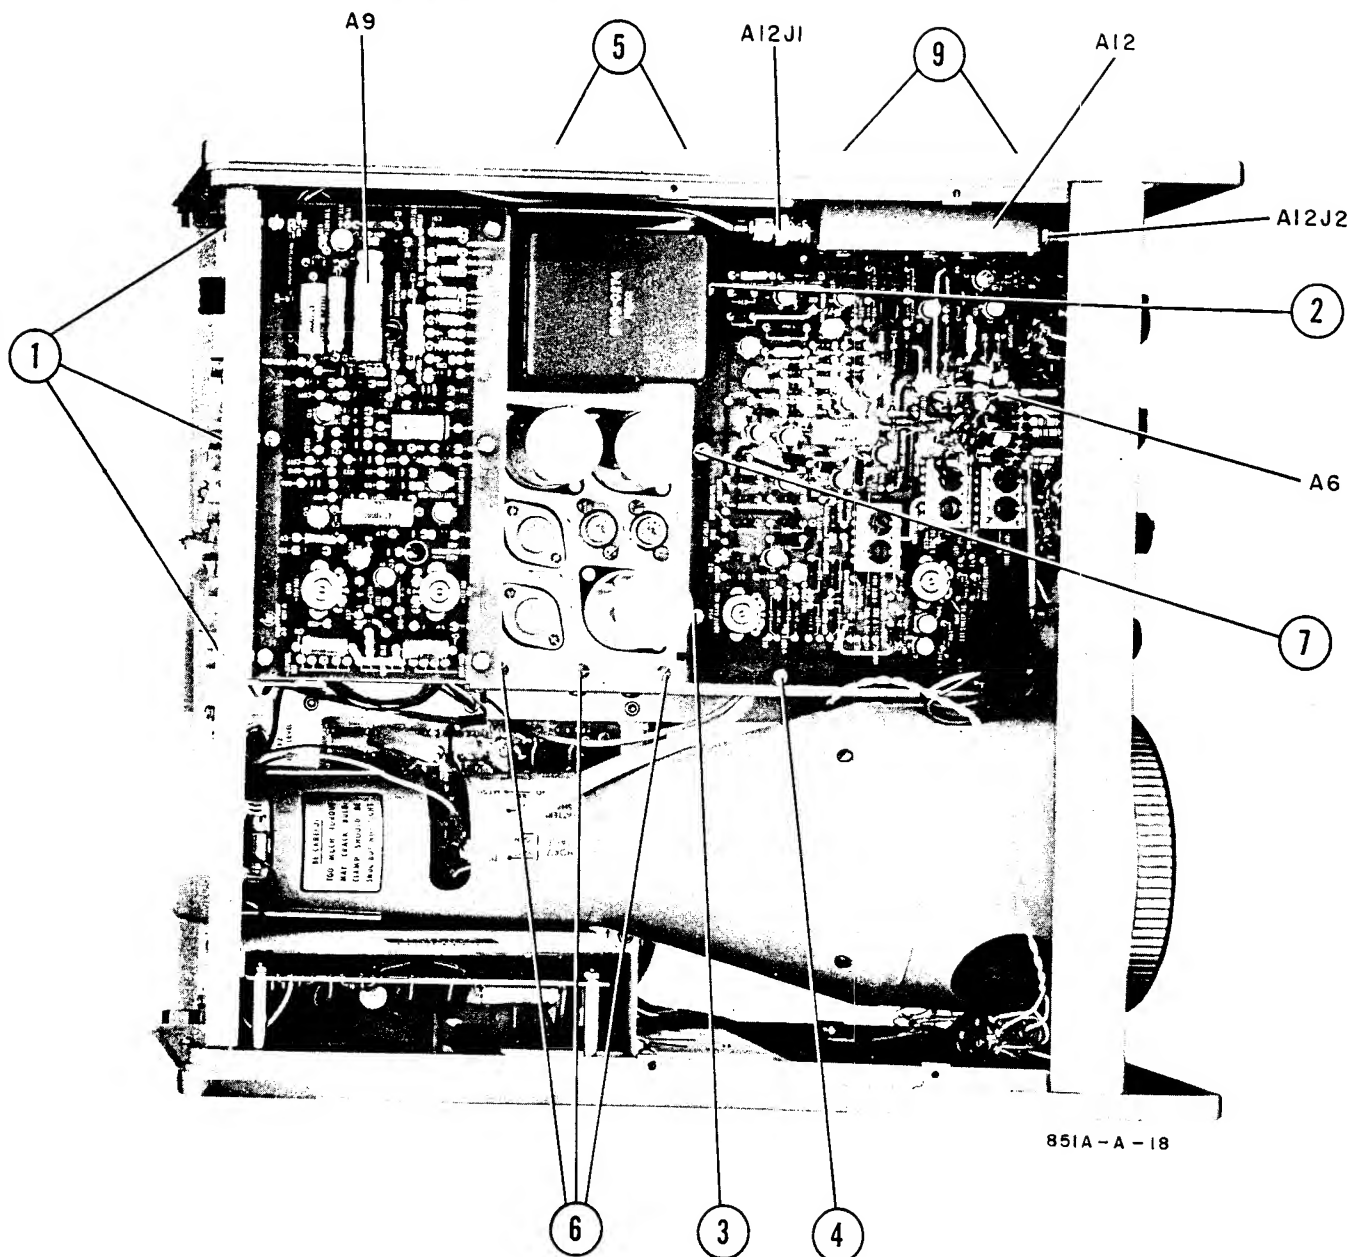

Figure 5-13. Top View of 851 Display Section
b. Refer to Figure 5-13. Remove the three screws designated ①; these are 6-32 x 3/8 BH machine screws with integral lockwasher, and are accessible from the rear plate.
c. Remove screws ②, ③, ④; these are 6-32 x 3/8 BH machine screws, each fitted with a split lockwasher.
d. Remove the two screws designated ⑤; these are 8-32 x 3/8 FH machine screws fitted with integral
d. Disconnect cable from A12J2 (see Figure 5-13). This is a right-angle connector and is a tight fit; if there is difficulty disconnecting it, disconnect the cable from A12J1, remove screws designated ⑨ which secure A12 to the side casting, and lift Assembly A12 up far enough to disconnect the cable from A12J2.
- Disconnect cable from A12J1 (Figure 5-13).
- Remove two screws (9) which hold A12 to the side casting; these are 6-32 x 3/8 FH machine screws with integral lockwashers.